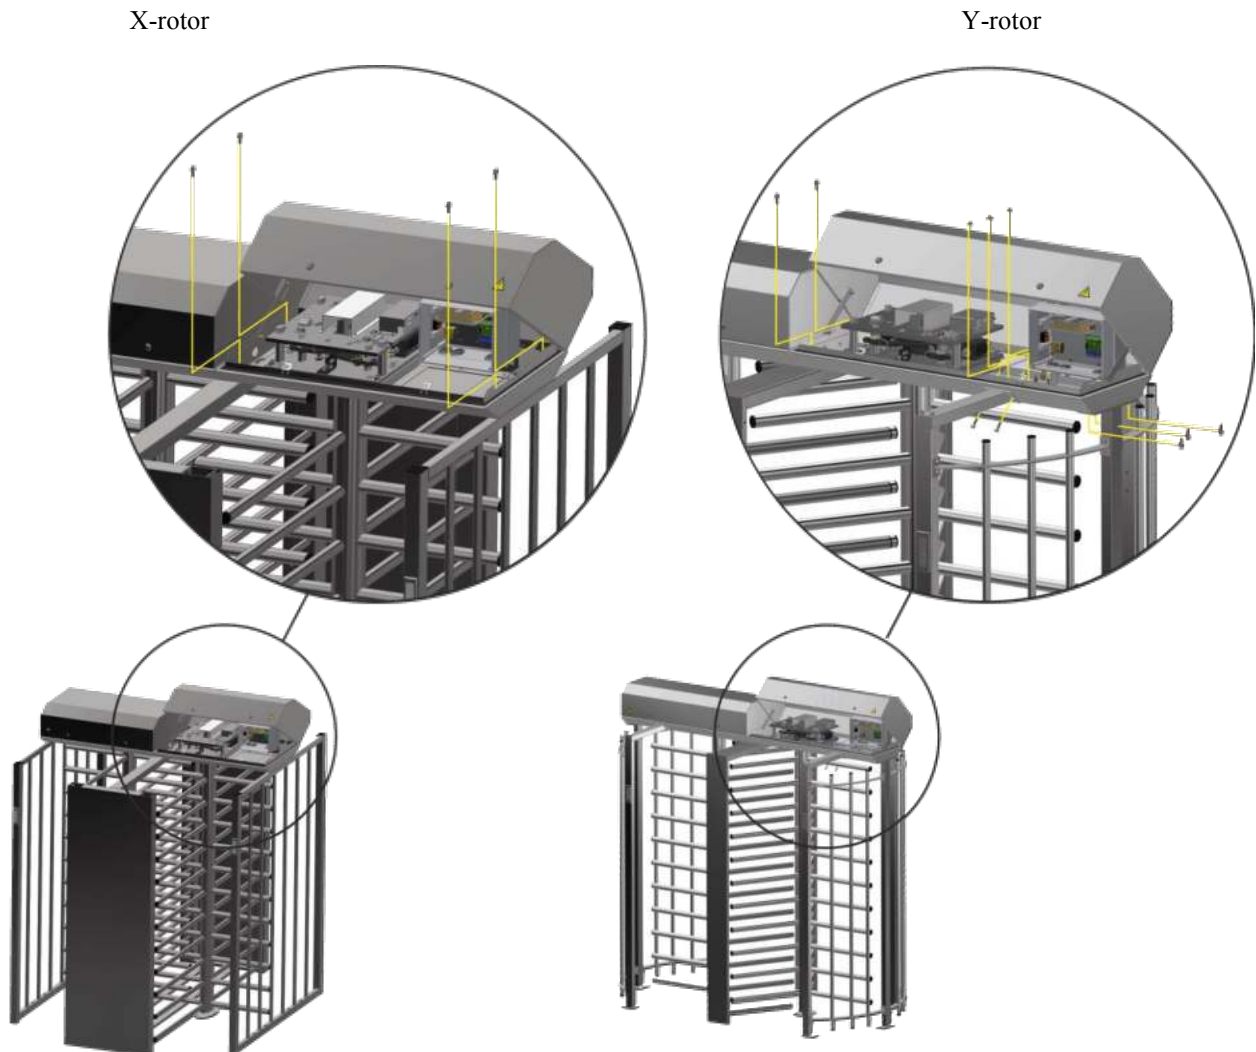

Fig.12- Container fixation
- Container to be fixed to the turnstile enclosure wall and access way wall by means of screws when lid is open (See Figure 12);